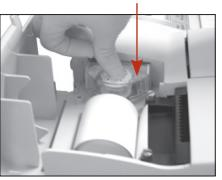

Figure 2: Install the new pump cartridge and then push down the pump roller
- With the nipples facing down, hold the new peristaltic pump cartridge next to the pump motor. Turn the motor shaft by hand so that it aligns with the key-way of the pump spool. Then, align the pump cartridge with the motor shaft and push the cartridge down firmly until it is fully seated on the housing (Figure 2).
- Press the pump cartridge roller down until it is firmly seated on the shaft of the pump motor (Figure 2).